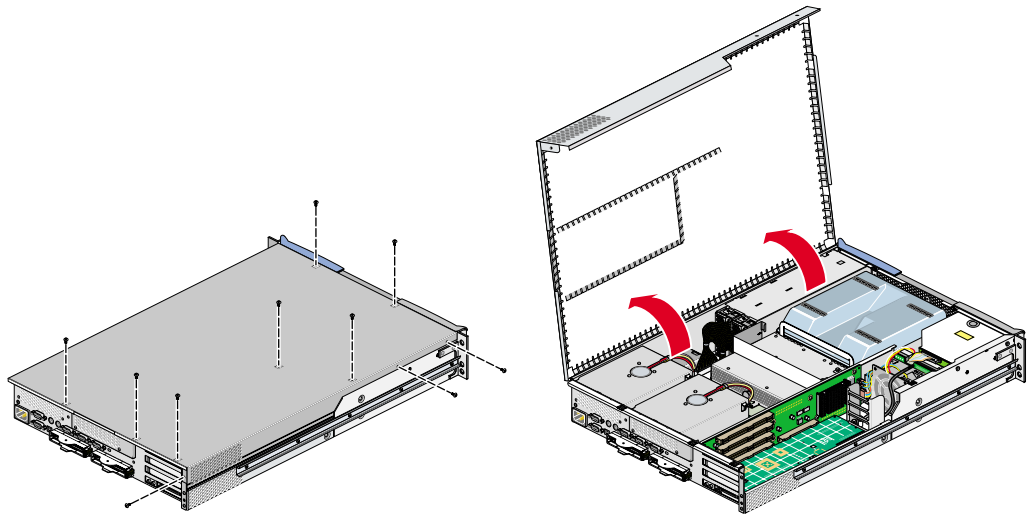

Figure 2 Opening Cover
4. Open the cover by performing the following steps (see Figure 2):
- d. Lift the cover into an upright position as shown in Figure 2.